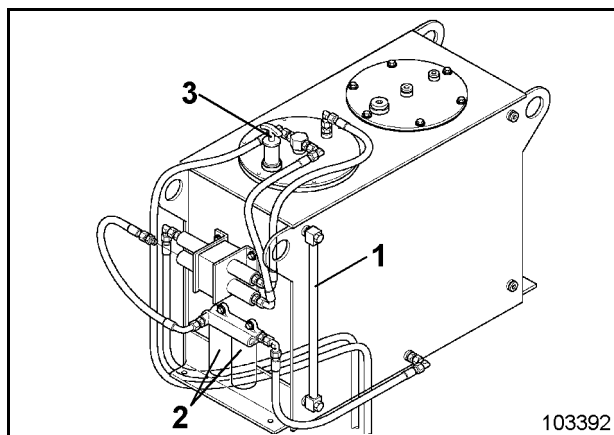

Fig. 3-24:
until the the inspection glas (1, Fig. 3-24:) is complete filled with oil.
- ➔ Check oil level and top up with engine oil until the oil level has reached the mark on dipstick (3, Fig. 3-24:).